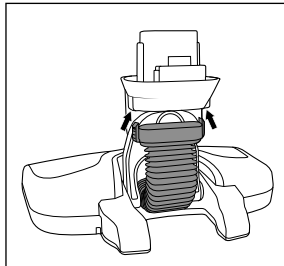

Fig. 18
- ◆ Slide the hose section over the fitting so that the release buttons 13 engage (see fig. 18).